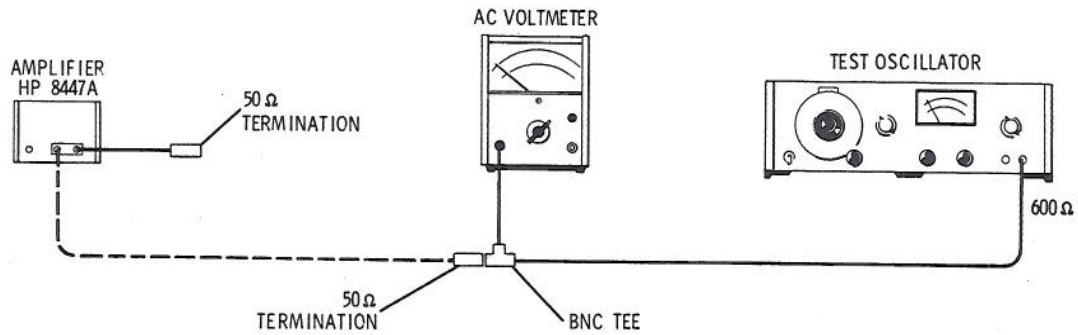

Figure 4-3. Impedance Check Test Setup, 100 kHz to 500 kHz
1. Connect the equipment as shown in Figure 4-3. Make the following control settings: